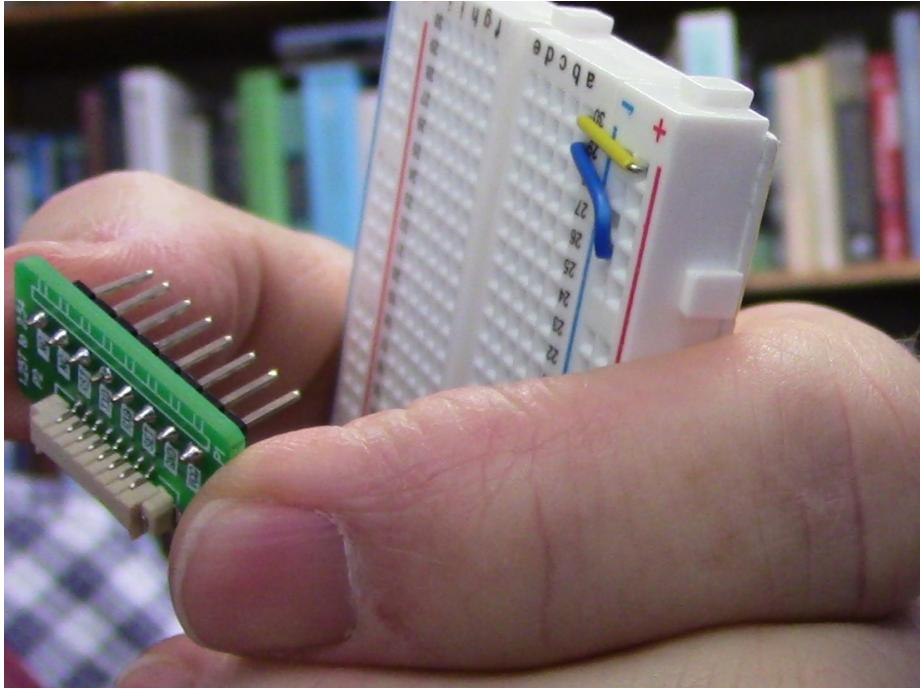

Figure 2: PMS5003 adapter board. Notice the labels for each pin, e.g. VCC (5V), GND (Ground).
1. Begin by connecting the sensor to the adapter. Take the black/red ribbon wires with white blocks on either end and attach them to both the sensor and the small adapter board (Figure 2); they attach with the “shiny” side up, and you need to give them quite a push to get them to go in fully. They should be snug, and not at all loose.